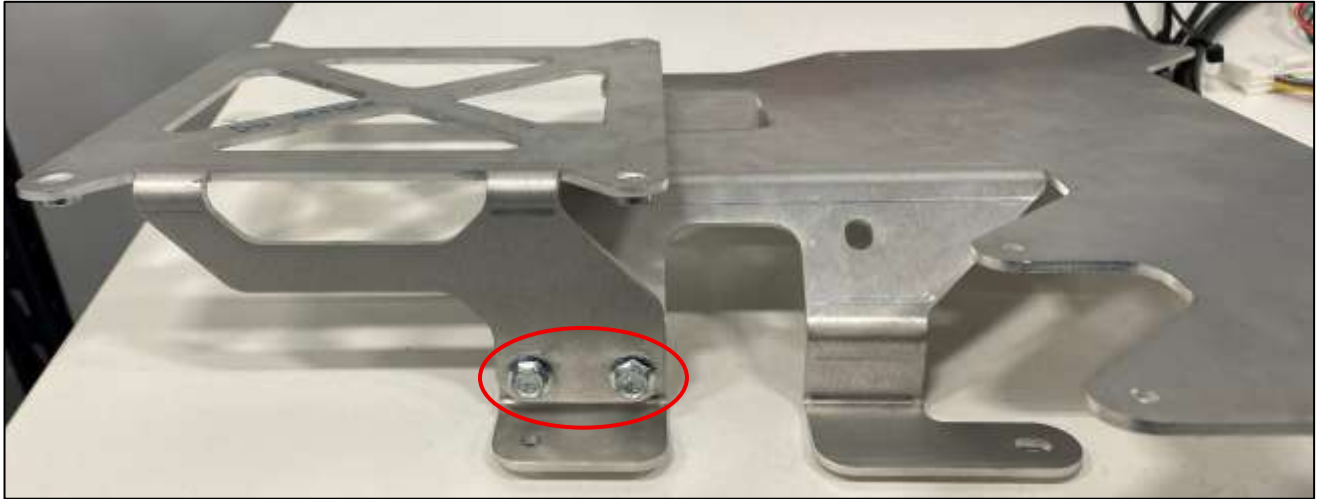

Figure 12
17. Locate the new Z1 AMP Brackets and (2) two M6 Flanged Head Bolts. Secure the Smaller Amp Bracket to the Larger Amp Bracket with the M6 Bolts as shown below. *Figure 12.*